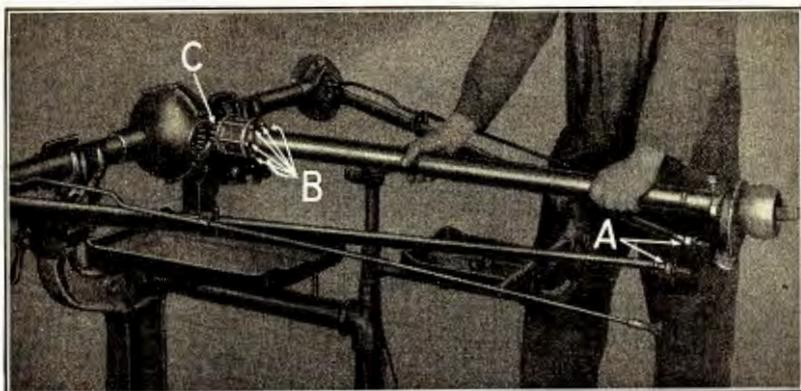

Fig. 351
- (a) Place a radius rod lockwasher over threaded end of radius rods and position it against lock nut which has been run down to end of threads on rods (See "A" Fig. 351).